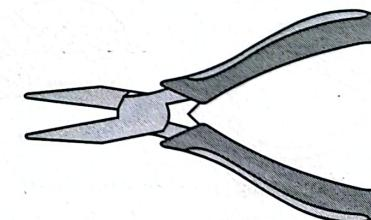

Fig. 1.31. (a) Flat nose plier.
**2. Round nose plier :** A round nose plier has long jaws of approximately round cross-section. It is used for holding and forming various shapes and patterns. [See Fig. 1.31 (b)]